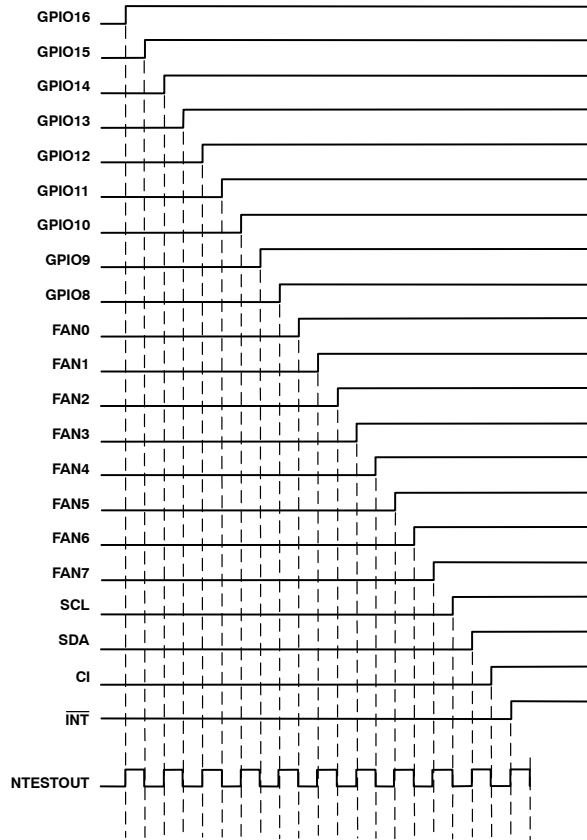

Figure 56. NAND Tree Test Taking Inputs High in Turn
1. Start with all inputs low and take them high in turn, starting with the input nearest to NTEST\_OUT (GPIO16/ $\overline{\text{THERM}}$ ) and working back up the tree to the input furthest from NTESTOUT ( $\overline{\text{INT}}$ ). This should give the characteristic output pattern shown in Figure 56, with NTESTOUT toggling each time an input is taken high.